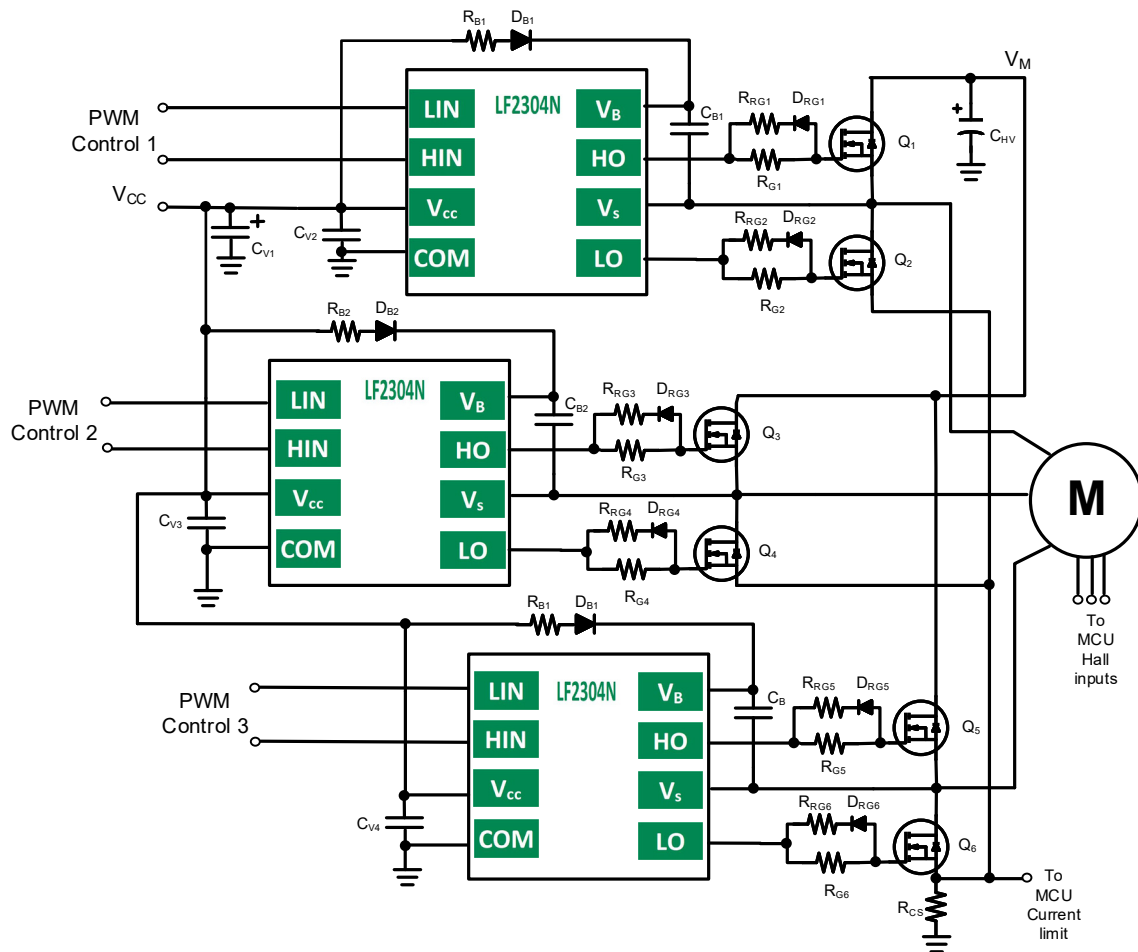
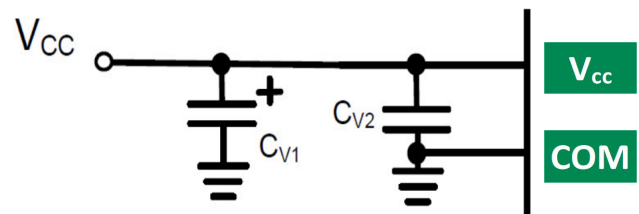

Figure 3. Three phase motor drive application example using the LF2304N
Figure 9. Suggested VCC decoupling
The LF2304N, half-bridge gate driver is used to optimally and efficiently drive the gate of MOSFETs or IGBTs. Below (figure 3) is an example application using the LF2304N with MOSFETs to make three halfbridge circuits used to drive a three phase motor. Typical 3 phase motor applications are AC Induction motors, PMSMs, and BLDC motors; the LF2304N also is typically used for stepper motor applications. LF2304N can also be used in power supplies. In this discussion, the important parameters needed to design in the LF2304N are discussed; main sections are bootstrap resistor, diode, and capacitor selection, gate driver component selection, decoupling capacitor discussion, and PCB layout suggestions.
Considering figure 3, when the low side MOSFET (Q2, Q4, or Q6) turns on, V_s pulls to GND and the bootstrap capacitor (CB1, CB2, and CB3) is charged. When the high side MOSFET (Q1, Q3, and Q5) is turned on, V_s swings above V_{cc} and the charge on the bootstrap capacitor (CB) provides current to drive the IC high side gate driver. The first charge of CB from V_{cc} through the bootstrap resistor (RB1, RB2, and RB3) and bootstrap diode (DB1, DB2, and DB3) occurs when power is first applied and low side turns on the first time. At this time the charge current is the largest as typically CB is not discharged fully at each cycle during normal operation
As shown in fig 9, two decoupling capacitors are recommended $CV1$ and $CV2$. $CV1$ can be a larger electrolytic, for example 47mF, 50V, used to dampen low frequency drains on supply; $CV1$ does not need to be right next to the IC. But $CV2$ is used to decouple faster edge changes to $V_{CC'}$ and should be a low ESR ceramic capacitor placed close to the V_{CC} pin. This component provides stability when V_{CC} is quickly pulled down with load from the IC; typical values are 0.1mF to 1mF. For applications with multiple gate driver ICs (for example BLDC motor drive with 3 x gate drivers as shown in figure 3), one larger electrolytic ($CV1$) can be used and the three ceramic caps ($CV2$, $CV3$, $CV4$) should be used close to the VCC pin (see Layout section also).